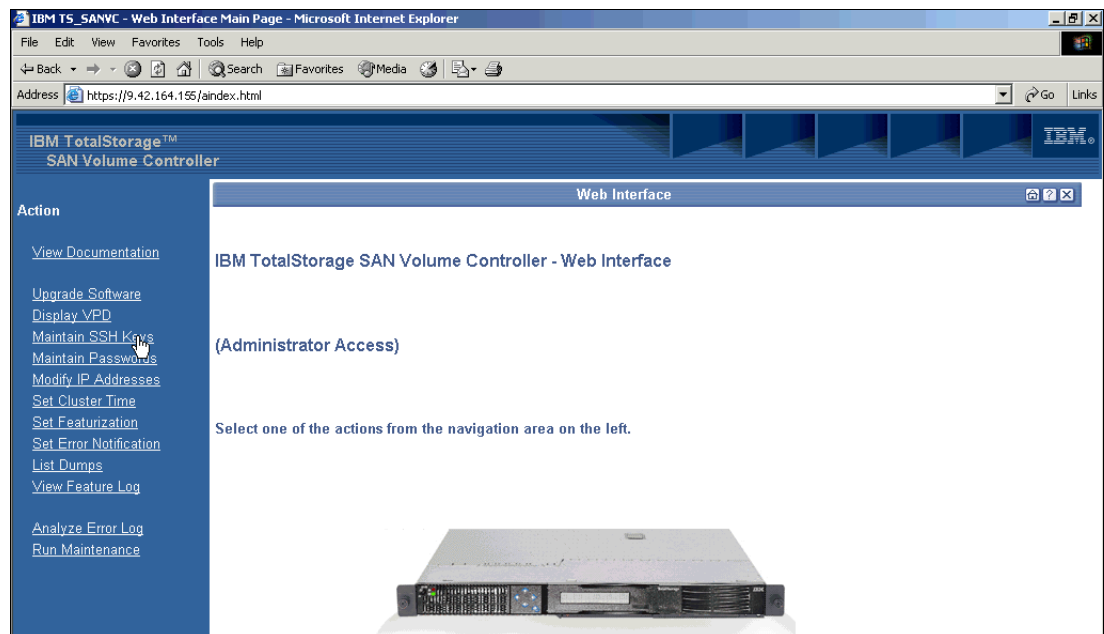

Figure 4-16 SVC Web Interface administration home page
4. The cluster Web Interface administration home page (Figure 4-16) opens. Add a service SSH key pair. From the left navigation bar, select the **Maintain SSH Keys** link.